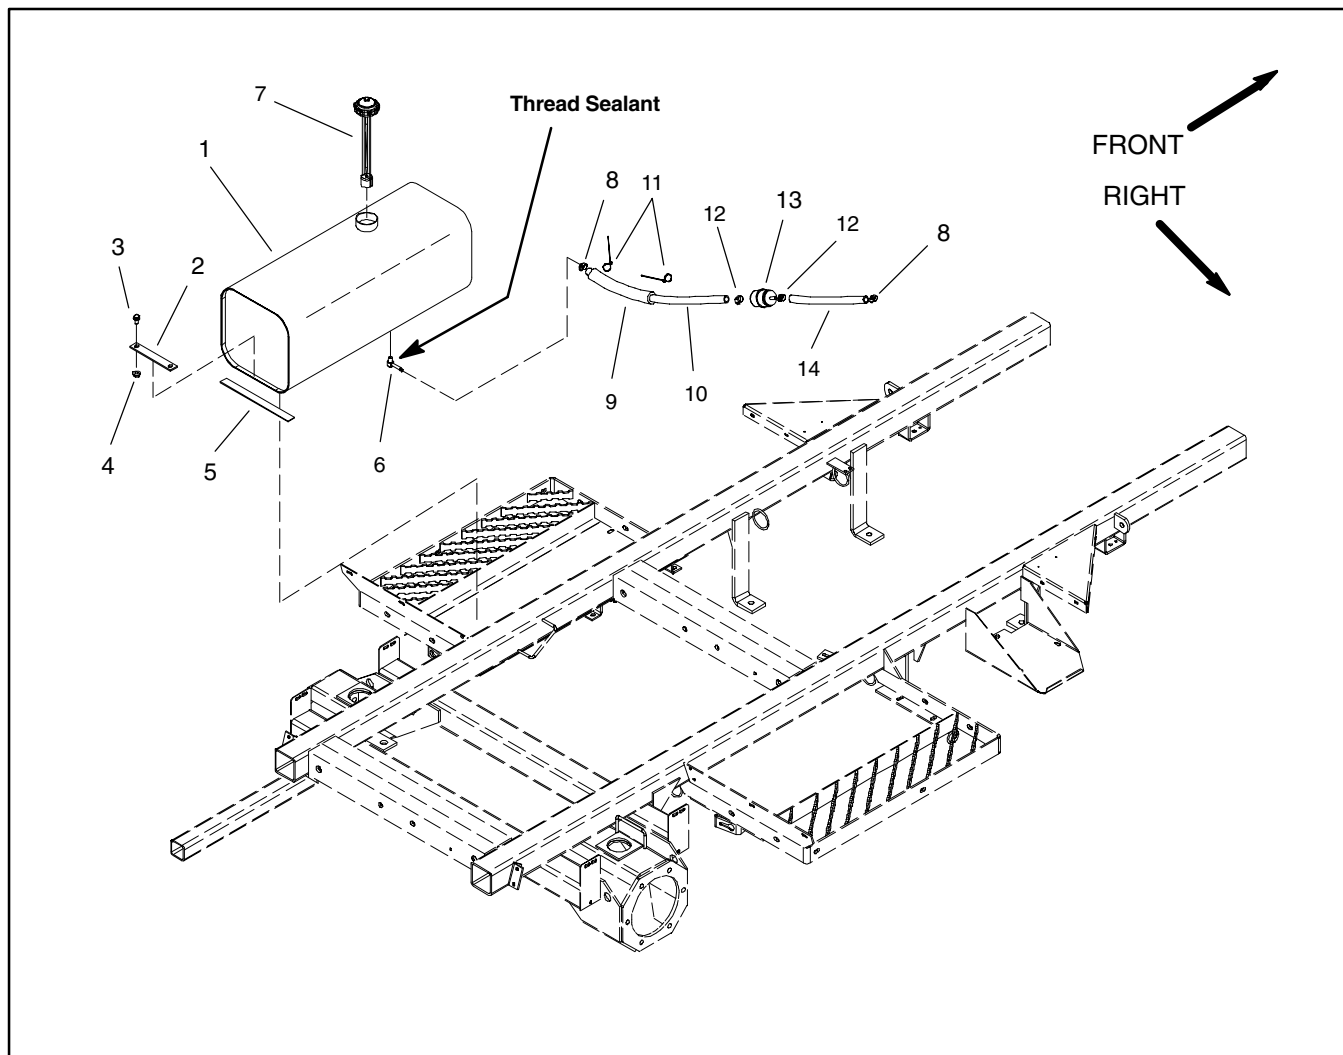

Figure 9
5. Remove fuel tank using Figure 9 as a guide.
1. Install fuel tank to frame using Figure 9 as a guide.